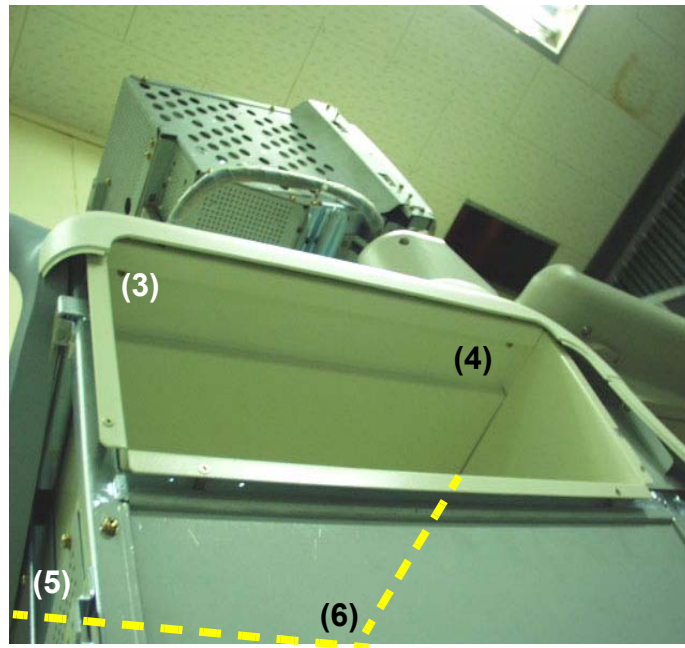

Figure 8-53 Unscrew 4 screws from the bottom
- 5.) Unscrew four screws (3-6) from the bottom of the Top cover. Refer to Figure 8-53 on page 8-38 .